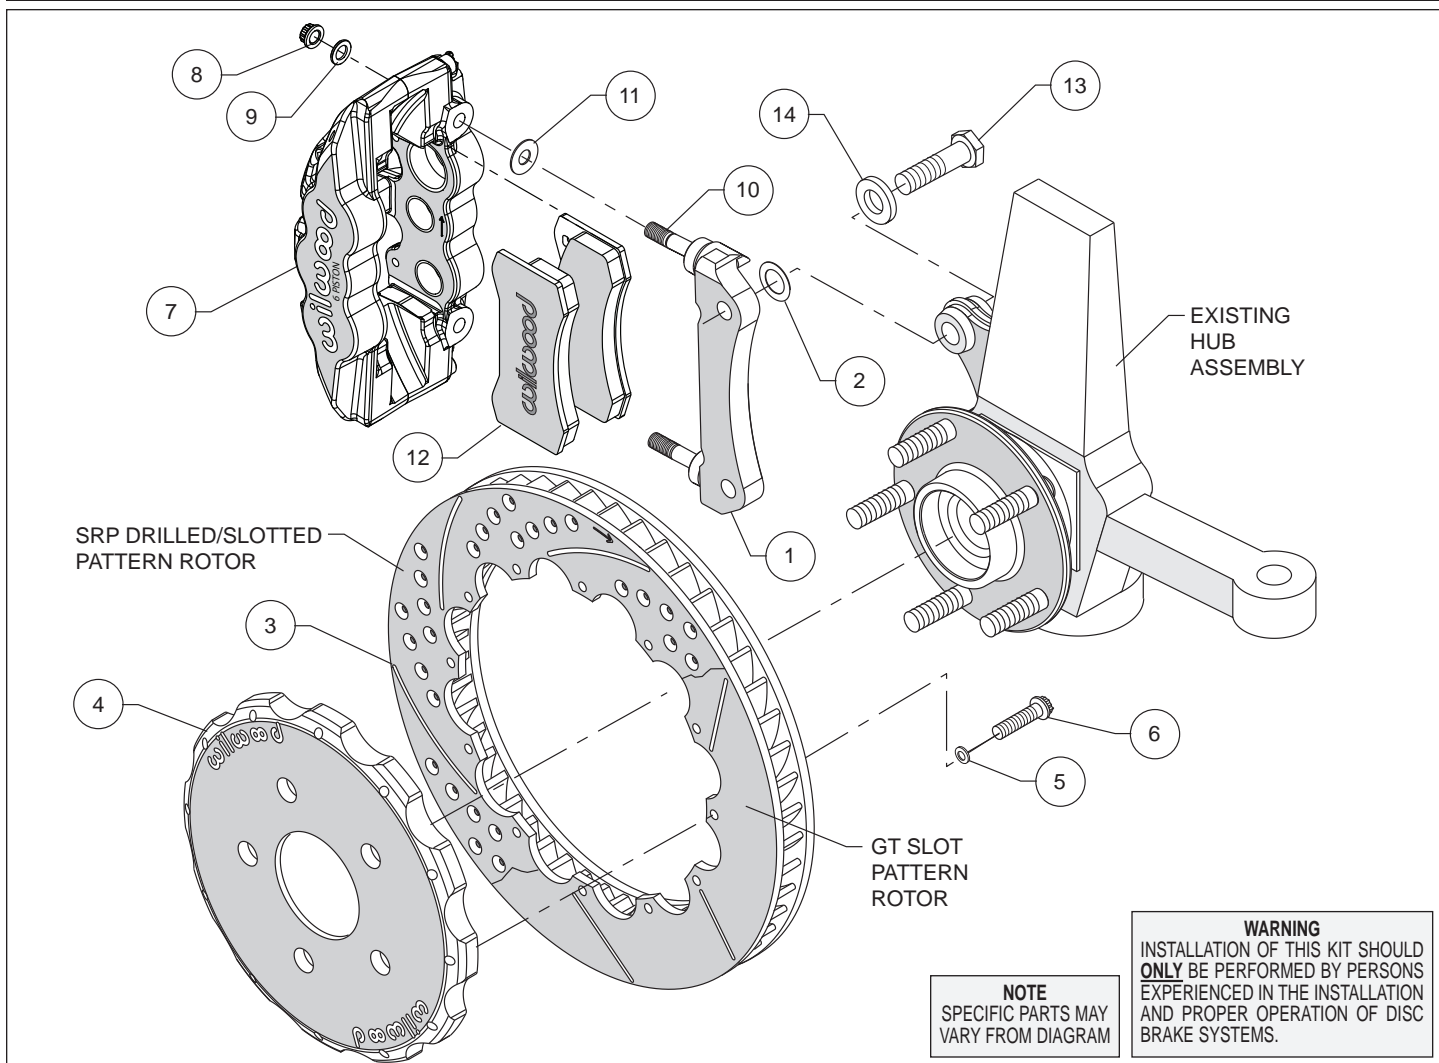
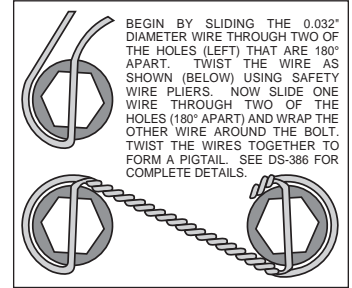

Figure 1. Typical Installation Configuration
Figure 3. Safety Wire Diagram
Assembly Instructions (numbers in parenthesis refer to the parts list and Figure 1 on the preceding pages):
- The caliper mount bracket (1) should initially be installed with clean, dry threads on the mounting bolts. Orient the bracket, as shown in Figure 1 and install using bolts (13) and washers (14). Initially place one .029" thick shim (2) on each bolt between the bracket and upright, Figure 1. Temporarily tighten the mounting bolts. **NOTE:** *The bracket must fit squarely against the mount bosses on the upright.* Inspect for interference from casting irregularities, machining ridges, burrs, etc. Later, after the caliper alignment has been checked, the mount bolts will be secured using red *Loctite*[®] 271.
- Orient the rotor (3) and the hat (4) as shown in Figure 1 and Photo 1. Attach rotor to hat using bolts (6) and washers (5). Using an alternating sequence, apply red *Loctite*[®] 271 to the threads, and torque to 155 **in-lbs**. For an added measure of security, the bolts may be safety wired using standard 0.032 inch diameter stainless steel safety wire as shown in Figure 3. Refer to Wilwood's data sheet DS-386 (available at www.wilwood.com/Pdf/DataSheets/ds386.pdf) for complete safety wire installation instructions.
- NOTE:** *This kit contains distinct right and left hand calipers that must be mounted in a specific direction, as described below.* Lubricate the caliper mounting studs (10) with lightweight oil. Initially place one .030" thick shim (11) on each stud between the caliper and the bracket, as shown in Figure 1 and Photo 2. Mount the caliper (7) onto the bracket (1) using lock nuts (8) and washers (9), Figure 1. Temporarily tighten the lock nuts. Ensure that the caliper is mounted so the largest pistons are at the rotor exit end of the caliper, in relation to the direction of the rotor. View the rotor through the top opening of the caliper. The rotor should be centered in the caliper, Photo 3. If not, adjust by adding or subtracting shims (2) between the bracket and the upright. Always use the same amount of shims on each of the two mounting bolts. Once the caliper alignment is correct, remove the bracket mounting bolts one at a time, apply red *Loctite*[®] 271 to the threads, and torque to 77 ft-lbs.
- Remove the two pad retaining pins from the caliper (7) by carefully popping out the pin retaining clips and sliding out the pins. Insert the brake pads (12) into the caliper from the bottom, Figure 1 and Photo 4. With the friction material facing the rotor, secure the brake pads in place with the pad retaining pins and clips, Photo 5. Reinstall the caliper onto the caliper mounting bracket and temporarily tighten the lock nuts. Check that the top of the brake pad is flush with the outside diameter of the rotor, Photo 6. If not, adjust by adding or subtracting shims (11) between the caliper and the bracket. After the caliper pad height is set, torque the caliper lock nuts (8) to 47 ft-lb.